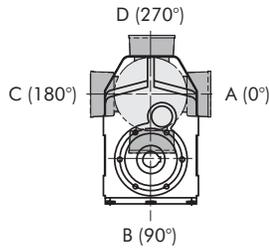

FIGURE 6
9. Determine appropriate position that motor conduit box must be in once motor is assembled to basic housing. Refer to Figure 6, Page 6. Slide motor shaft into high speed motor adapter, aligning key of shaft with keyway in motor adapter bore.
11. Determine appropriate position that motor conduit box must be in once motor is assembled to basic housing. Refer to Figure 6, Page 6. Slide motor shaft into high speed motor adapter, aligning key of shaft with keyway in motor adapter bore.
9. Determine the appropriate position that motor conduit box must be in once motor is assembled to basic housing. Refer to Figure 6, Page 6. Align mounting holes of high speed motor adapter with threaded holes of basic housing while assembling motor/adapter assembly to basic housing.
- Determine the appropriate position that motor conduit box must be in once motor is assembled to basic housing. Refer to Figure 6. Align mounting holes of electric motor, high speed motor adapter and basic housing while assembling motor/adapter assembly to basic housing.